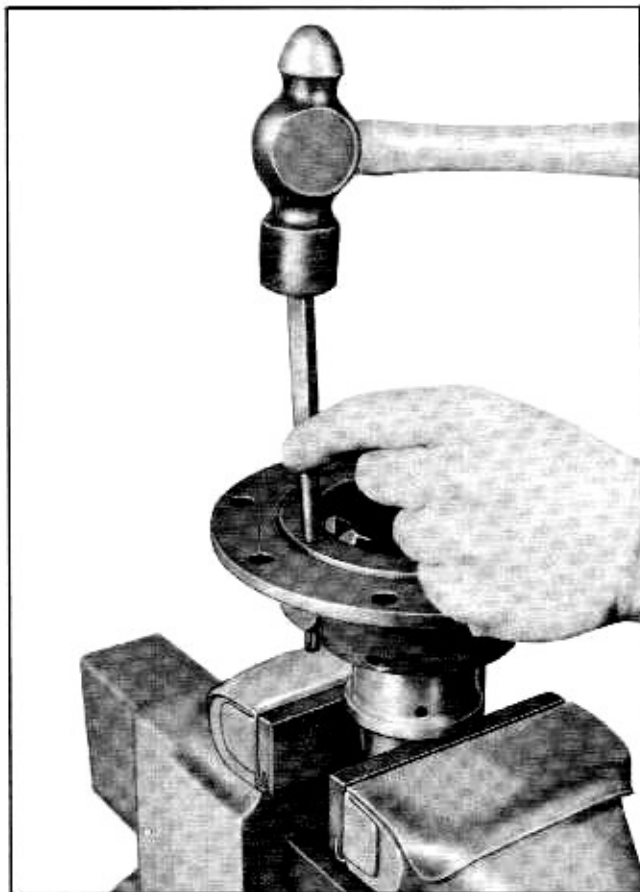

Fig. 4-29 Removing Roll Pin
8. Drive out roll pin which retains cross shaft (Fig. 4-29).